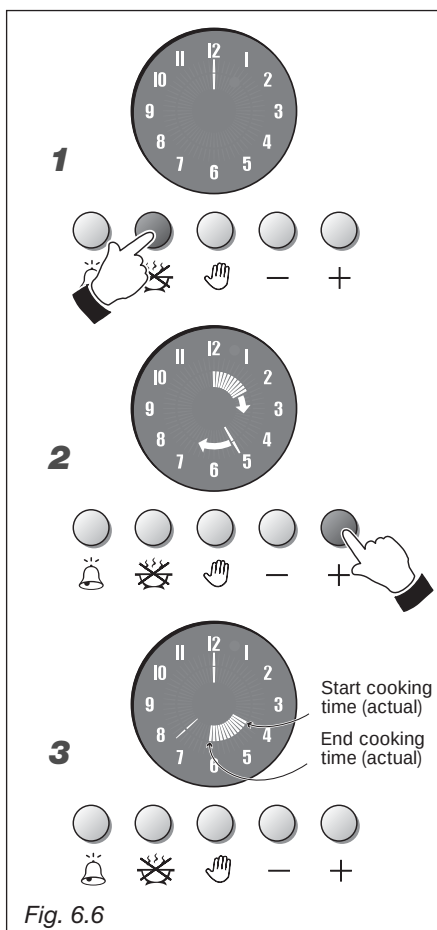

Fig. 6.6
SEMI-AUTOMATIC COOKING (fig. 6.6)
1. Fig. 6.6 - To set the cooking time (max 6 hours) press button , the electronic clock luminous hands go out and a luminous hand lights up on number 12.
2. Fig. 6.6 - Within 7 seconds press  button and another luminous hand (like seconds and minutes) lights up on the display. Every increasing (additional inner hand) indicates one minute. Moreover every increasing of the 12 minutes is indicated by an inner luminous hand (5 luminous hands indicate one hour). To decrease the required time press  button.
3. Fig. 6.6 - After 7 seconds the inner luminous hands turn automatically on the time of the day indicating the remaining cooking time.